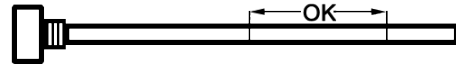

FIGURE 8.
- Using the lift handle, stand the log splitter on the end with the wheels (see *FIGURE 8*).